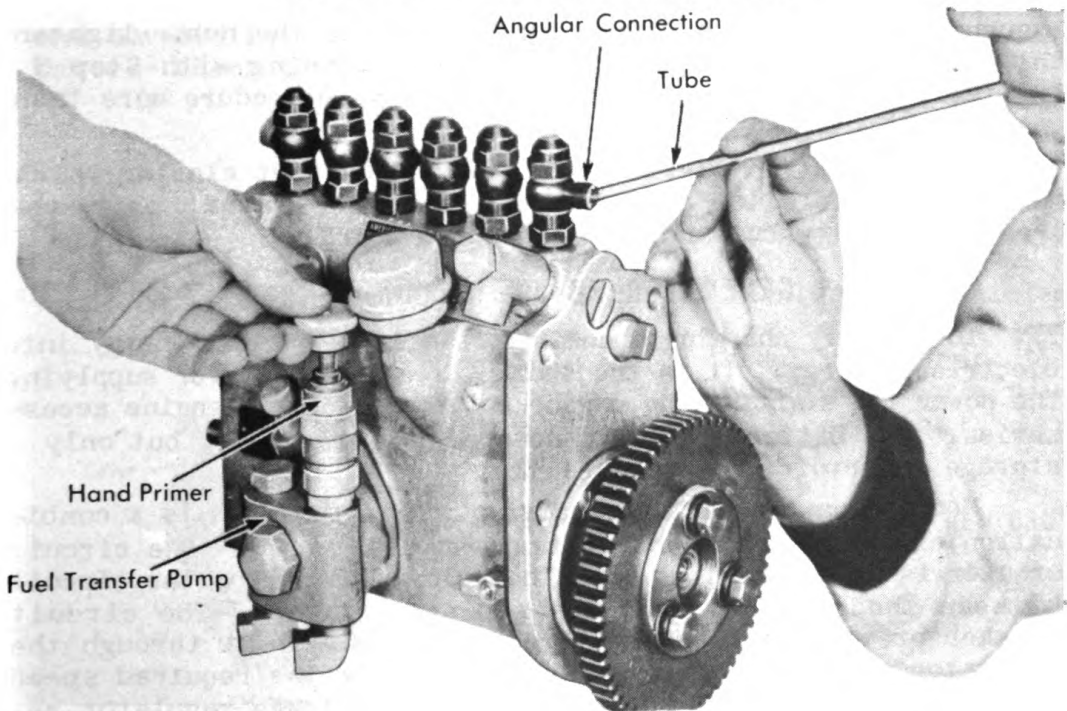

Figure 39. Blowing Seepage Away (Timing Injection Pump)
7. Crank the engine slowly in the direction of rotation (while continuing to operate the hand primer of the fuel transfer pump) until the fuel at the open connection seeps slowly. With a small tube, as shown in Figure 39, blow gently the fuel seepage away from the opening as the engine is being slowly cranked and the hand primer being operated. By blowing the seepage away, the exact moment when the seepage stops can be observed. At the instant the fuel seepage stops, the cranking should be stopped and the timing mark No. 1 F.P.I. observed